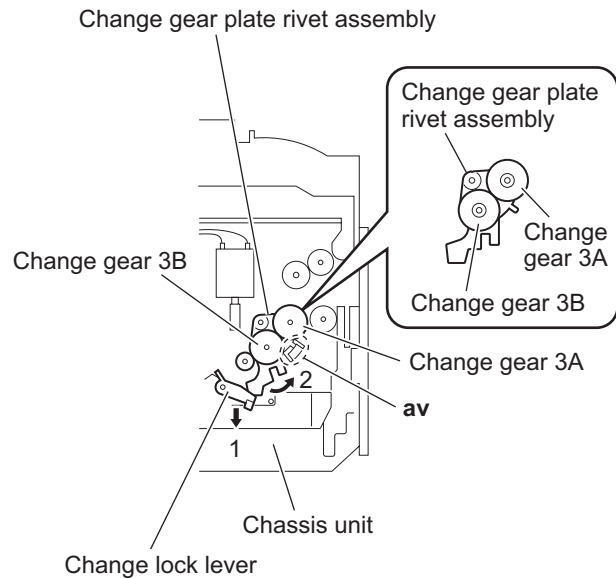

Fig.23
- (4) Move the change gear plate rivet assembly in the direction of the arrow 2 to remove the section **av** of the change gear plate rivet assembly from the chassis unit while moving the change lock lever in the direction of the arrow 1. (See Fig.23.)
- (5) Pull out the change gear 3A and change gear 3B from the change gear plate rivet assembly. (See Fig.23.)